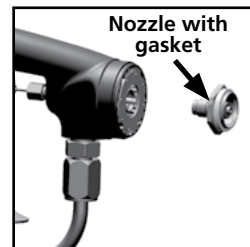

Fig. 5
2. While fully depressing the trigger remove the fluid nozzle and gasket. (See fig 5)
4. While fully depressing the trigger install the new fluid nozzle and gasket. Torque fluid nozzle from 9 to 11 ft.-lbs. (See fig 5) .